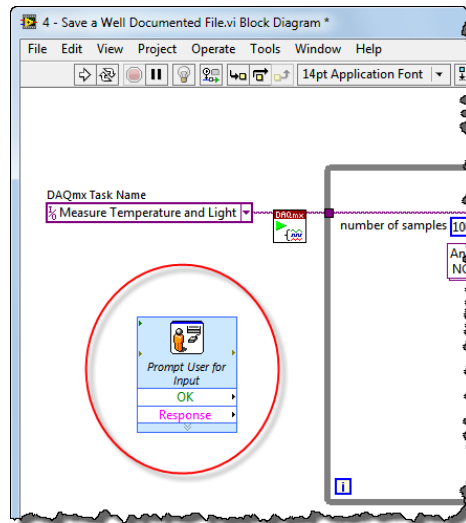

Figure 22. The Prompt User for Input Express VI is placed before the while loop since it is the first thing we want to happen when the application runs.
- g. Confirm that the dialog is configured to match Figure 22 and then select **OK** to close the dialog.